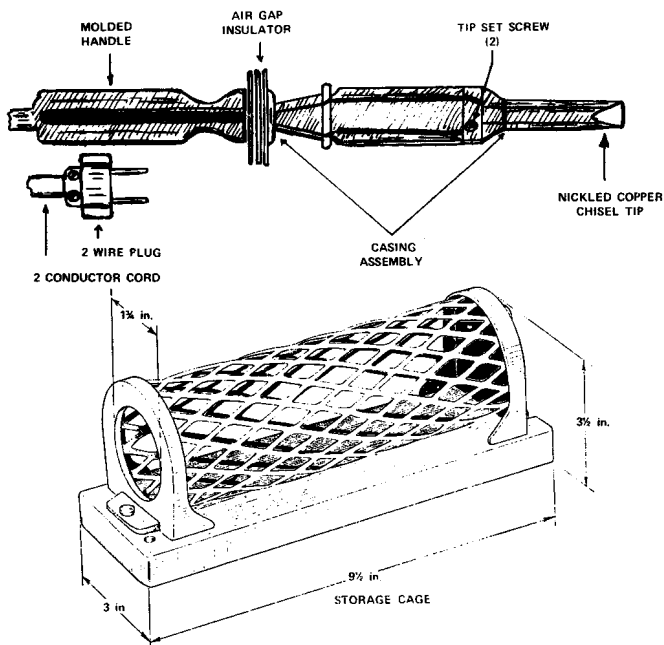

Figure 1.
- 2.01 As shown in Figure 1, the electric soldering irons covered in this practice consist of a molded handle, 2-conductor cord and plug, a 100, 200, or 300 watt heat element within the casing assembly, an air gap insulator safety shield, a replaceable nickled copper tip and two set screws.